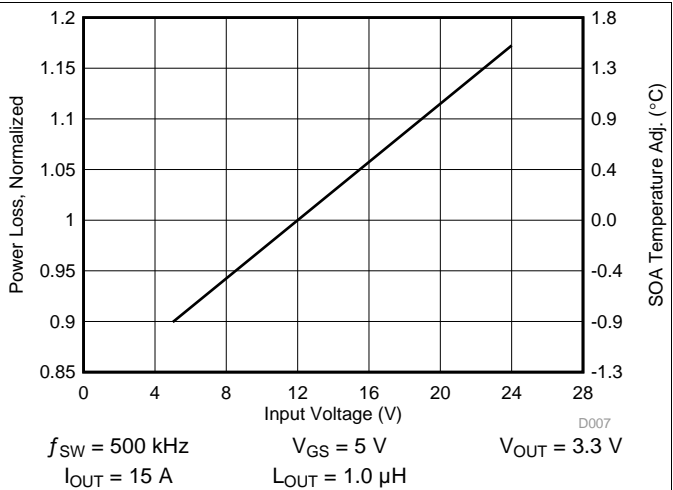

Figure 7. Normalized Power Loss vs Input Voltage
- Normalized power loss for input voltage ≈ 1.05 (Figure 7)
- SOA adjustment for input voltage $\approx 0.5^\circ\text{C}$ (Figure 7)